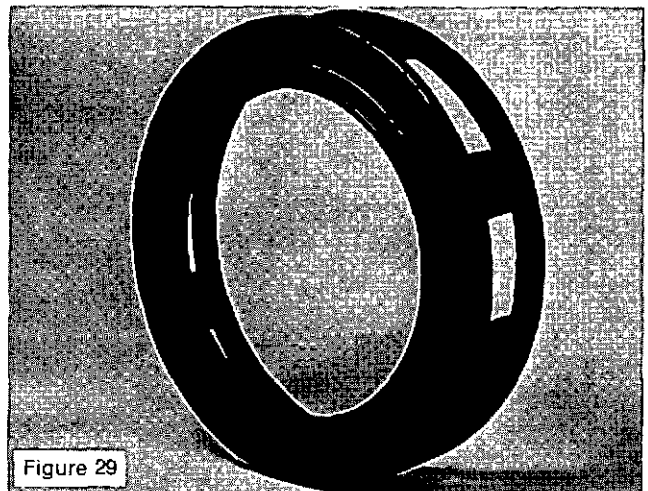

Figure 29
2. Clean the bracket or adaptor, capscrews and screen assembly in an approved solvent to remove all dust, dirt, and grease. (See Figure 29.) Dry the parts thoroughly with compressed air.